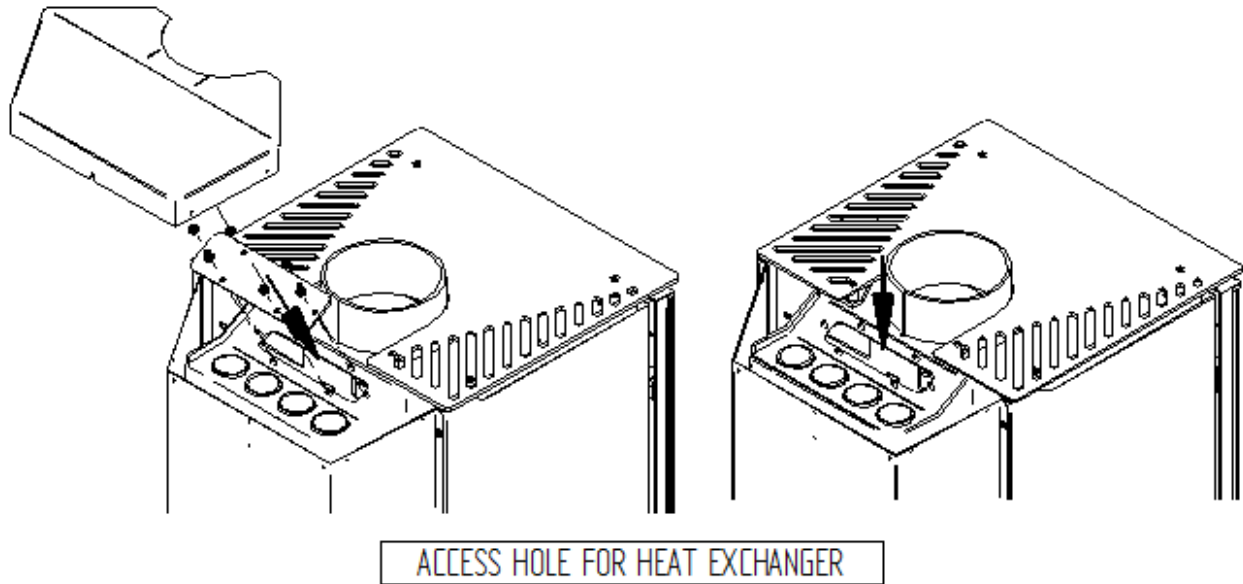

Fig 6.3
12. Remove the heat exchanger cover plate (Refer Fig 6.3)